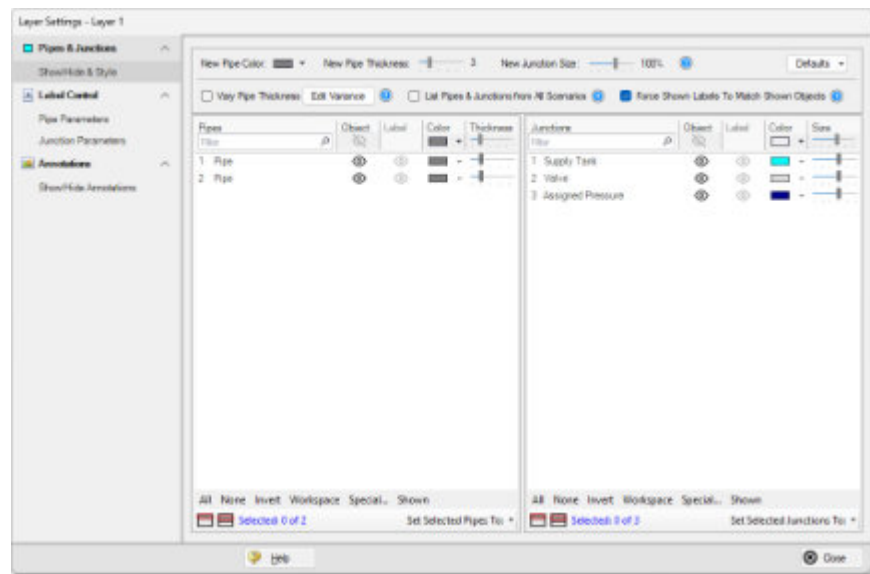

Figure 2.34 The Layer Settings window specifies content to be superimposed on the Workspace
- **Open the Layer Settings window for Layer 1 by double-clicking the layer.** The Layer Settings window is shown in Figure 2.34.